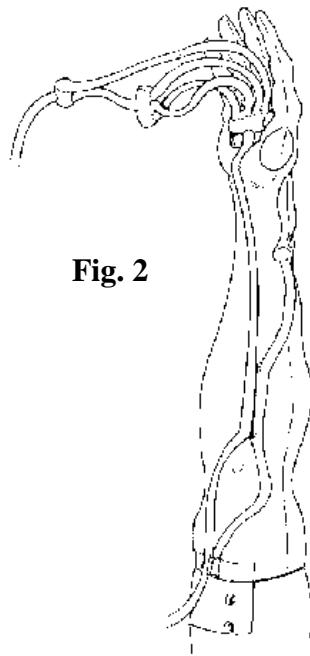

Fig. 2
5. Place new veins along grooves, spot gluing as needed. (See Fig. 2)